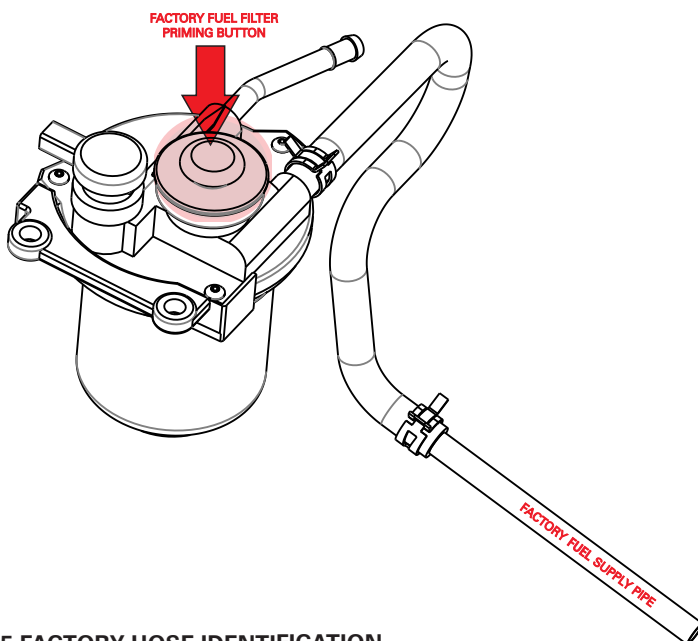

FIG. 5 FACTORY HOSE IDENTIFICATION
5. Locate the factory fuel filter on the passenger side of the engine bay. Locate the factory fuel inlet hose at the factory fuel filter. Loosen the factory fuel hose clamp and disconnect the fuel supply line from the factory filter, as per Fig. 5. Have a rag ready to capture any diesel that may spill out of the fuel line and the fuel filter.
6. Trace the other end of the fuel supply line and disconnect it from the metal factory fuel supply pipe, as per Fig. 5. Remove the factory fuel supply line from the vehicle and store for safe keeping. Have a rag ready to capture any diesel that may spill out of the fuel lines.
7. Mount the Z980K16 fuel filter assembly onto the metal bracket facing the rear of the engine bay using the two (2) black M10 bolts and washers supplied with the Z980K16.